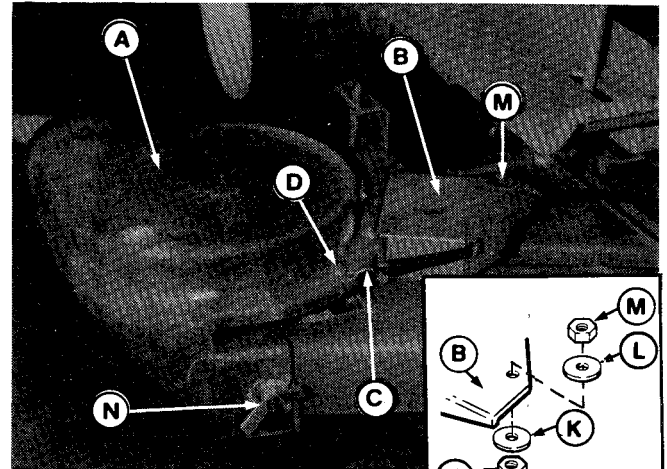
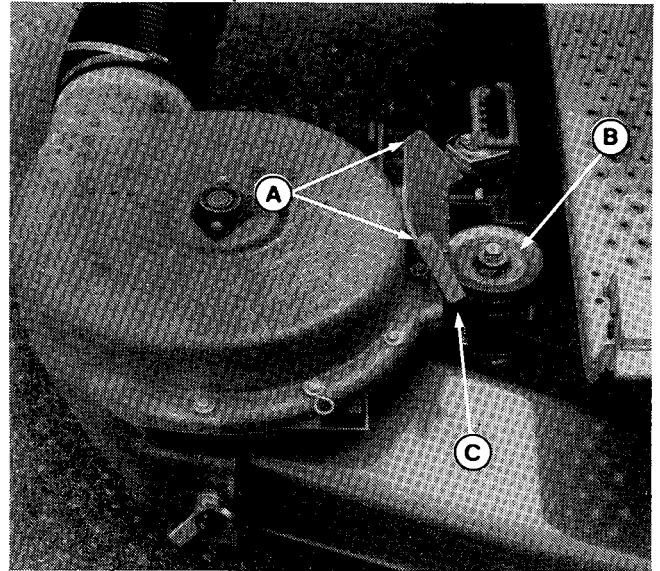

Figure 5.
Figure 9.
10. Install the belt cover (B, figure 5) with hardware shown, Items E through M. (Figure 5 shows blower housing but it is not installed at this point of the procedure.)
11. Install wing nut (N, figure 5) as follows:
- a. Pivot cover (B, figure 5) away to expose the arbor.
- c. Place mower in low cut position. Raise the flap (A, figure 9) and install the blower drive belt (C) in the top groove of the pulley (B). (Pivot cover B, figure 5, away to expose flap.)
- d. Rotate the pivoting cover (B, figure 5) into place and attach the hook (C) to the clip (D) on the housing.